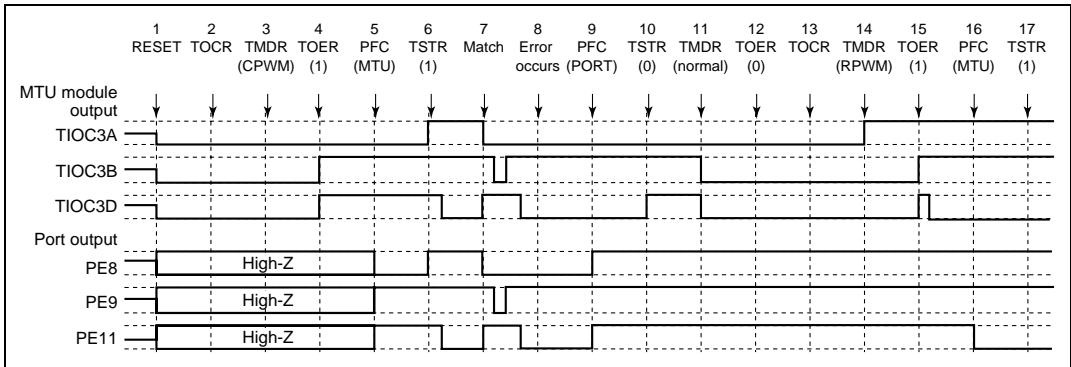

Figure 10.109 Error Occurrence in Complementary PWM Mode, Recovery in Reset-Synchronous PWM Mode
(25) Operation when Error Occurs during Complementary PWM Mode Operation, and Operation is Restarted in Reset-Synchronous PWM Mode: Figure 10.109 shows an explanatory diagram of the case where an error occurs in complementary PWM mode and operation is restarted in reset-synchronous PWM mode.